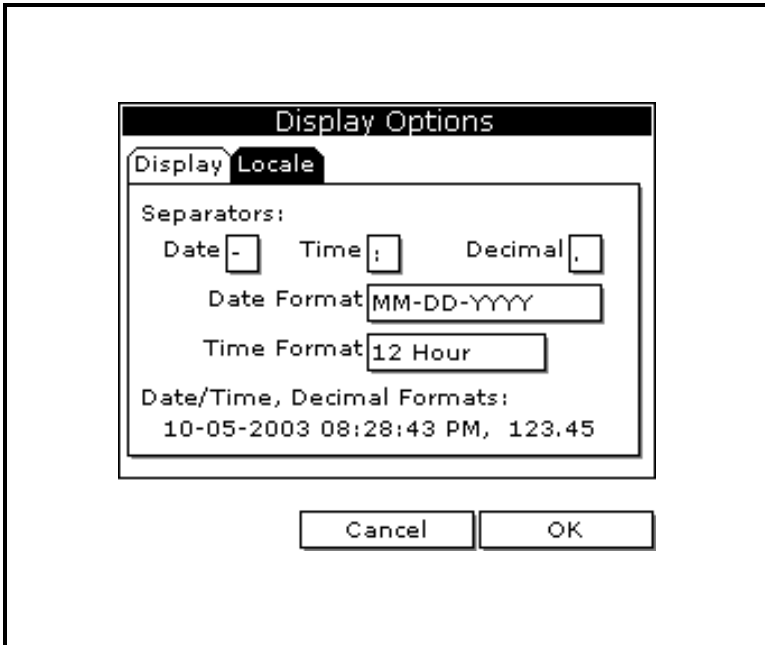

Figure 4-1: Locale Tab
3. Use the arrow key to scroll to **Locale** and press [ENTER]. A screen similar to Figure 4-1 appears below.